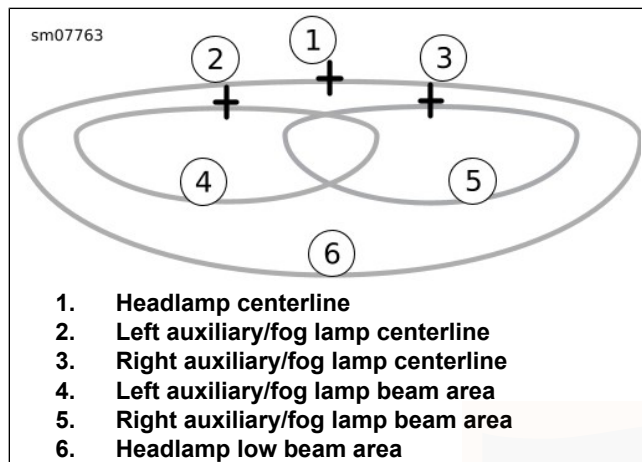

Figure 84. Headlamp Pattern: LED Type with Auxiliary/Fog Lamps
4. See Figure 84. Mark the auxiliary/fog lamp horizontal and vertical centerlines (2, 3) on the wall.
7. Turn on the headlamp low beam and cover both the headlamp and the right auxiliary/fog lamp. Adjust the left auxiliary/fog lamp so the entire high intensity zone (4) is below the centerline as shown in Figure 84.